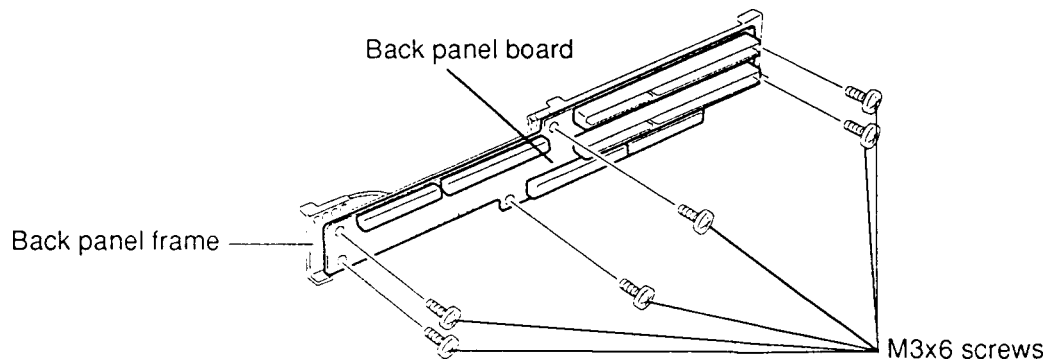

Figure 4-25 Separating the Back Panel Board from its Frame
5. To separate the **back panel board** from its **frame**, remove the **six M3x6 screws** (Figure 4-25).
1. Set the **back panel board** on the **back panel frame** and secure it with **six M3x6 screws** (Figure 4-25).